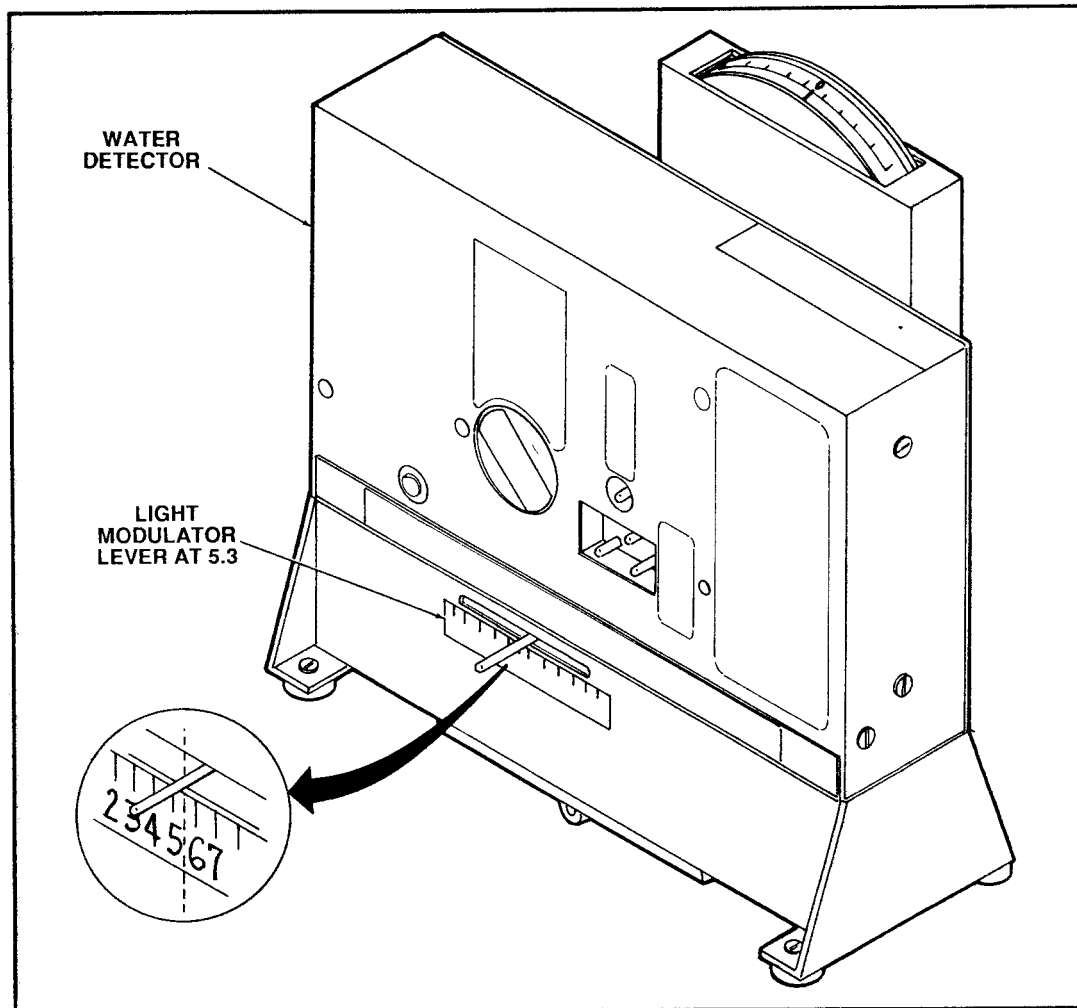

Figure 2.24 Set the Light-Modulator Lever
- d. Position the light-modulator lever, located on the side of the water detector, (move the lever left or right), until the lever is directly above the number on the scale which corresponds to the set number shown on the calibration pad (i.e., 5.3). See Figure 2.24.